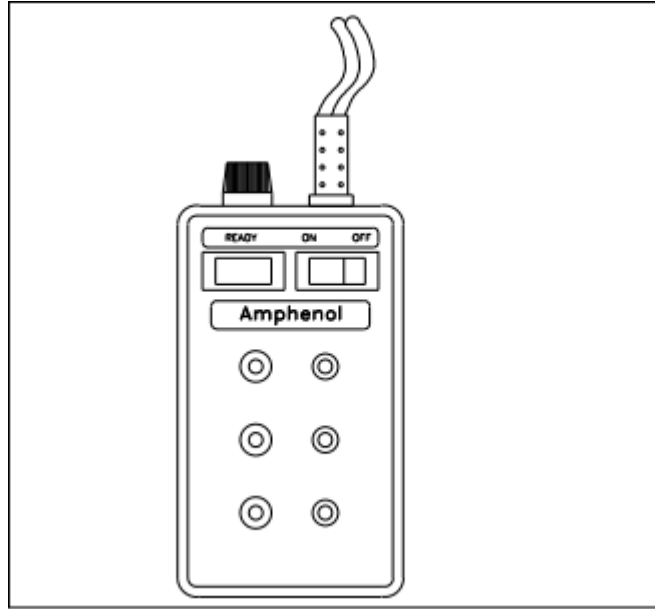

Figure 11: Top view of multi-port curing oven.
13. Use the Amphenol oven (p/n 927-100-2084 for the multi-port oven shown in Figure 11) to provide the proper cure temperature, 140 - 150°C, for the TRA-BOND F253 and Epo-Tek 353ND epoxies. Turn on the oven. The indicator light will illuminate in approximately 3 minutes when the oven has reached the appropriate temperature. Carefully place the connector into the curing oven. The connector is to be heated for 4 minutes. **CAUTION:** The connector will be hot. The boot, however, does not get hot and can be handled immediately.